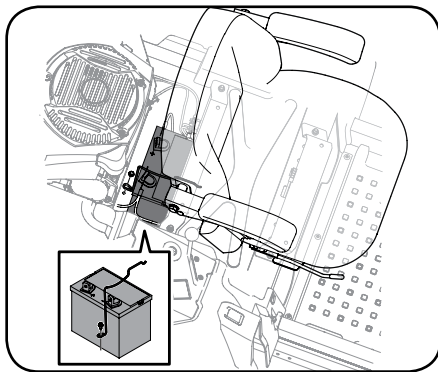

Figure 4-5
2. Remove the hex washer screw securing the battery hold-down bracket to the frame. Then flip the battery hold-down bracket up to free the battery. See Figure 4-5